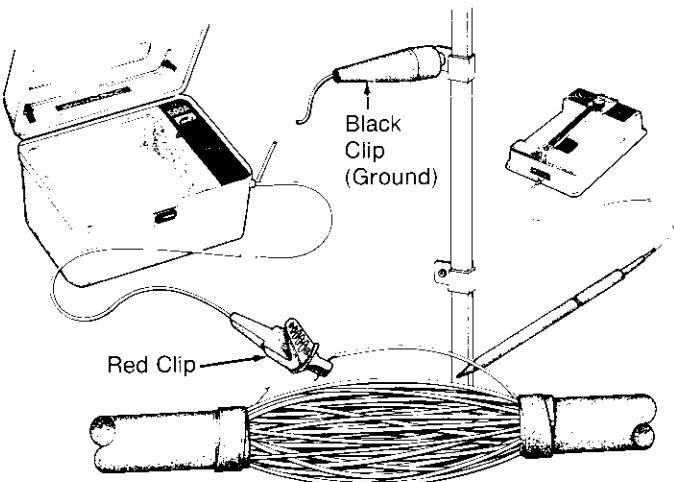

Fig. 14 — Direct Connection to Single Conductor
- (3) Turn the TRANSMITTER MODE selector to RF NORMAL.
- (4) Connect the 3011 Inductive Probe Head to the receiver EXT Jack, using the 9023 6 ft. probe cable.
- (5) In the same splice, place the toned wire in the groove of, and perpendicular to, the 3011 Inductive Probe Head. Adjust the volume to set a reference for that conductor. Do not overdrive the receiver.
- (6) In the splice, test for tone on conductors throughout the cable. If tone is louder on other wires, cut a single conductor of the test pair (Fig. 14) and apply tone directly with the 9012 Direct Connection Cable. Set a reference as in (5) above.